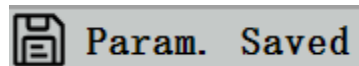

Figure 3-1
Use the back button to operate the camera functions and adjust the camera parameters. After modifying the parameters, exit the interface to save. In the upper left corner of the screen, "Param. saved" appears. This is shown in Figure 3-1.
2.The screen shows "Take Successfully", which means that the picture has been taken successfully. This is shown in Figure 3-1.